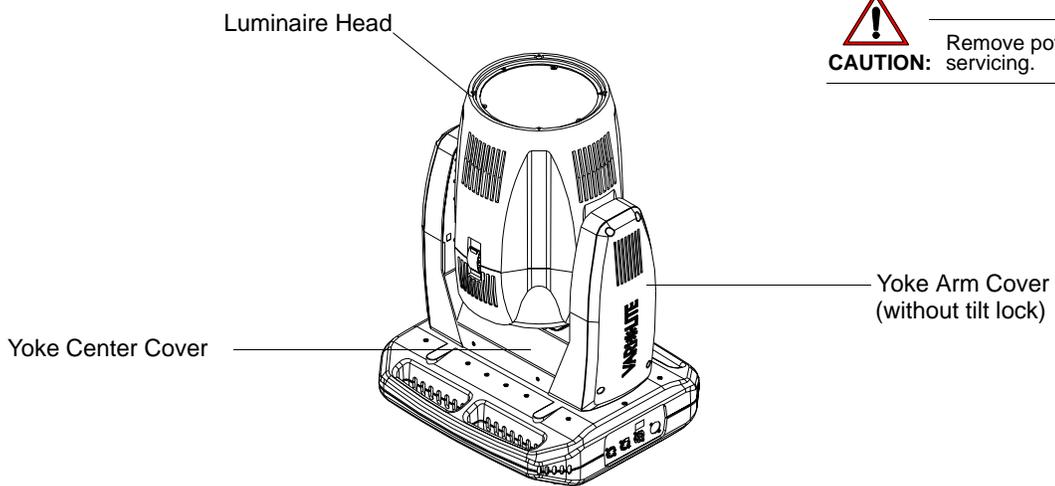

Figure 2-14: VLX Wash Luminaire
- Step 2. At yoke arm cover without tilt lock assembly, remove yoke arm cover by loosening four 1/4-turn Dzus fasteners. Refer to Figure 2-14 for details.